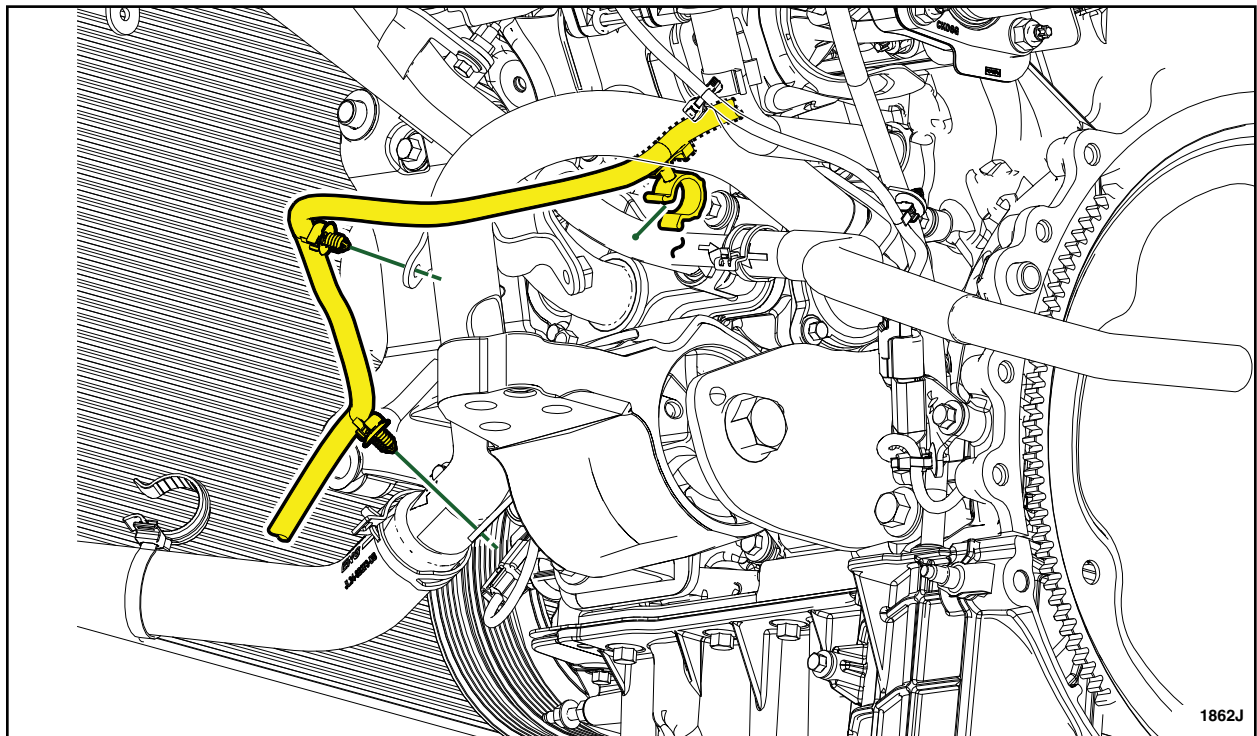

FIGURE 5a
5. Remove and discard the wire assembly. See Figures 5a, 5b.
8. Install the *new* wire assembly in the vehicle following the same routing as the wire assembly that is being replaced. See Figures 5a, 5b.